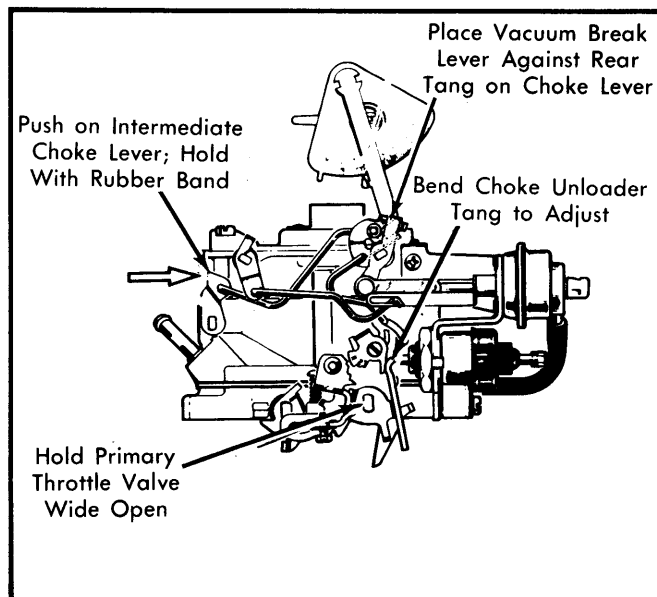

Fig. 8 Choke Unloader Adjustment
1) Automatic choke should be to specified setting. Do not adjust setting unless carburetor is to be overhauled or unless choke coil lever adjustment is necessary. Hold primary throttle valve wide open. See Fig. 8.